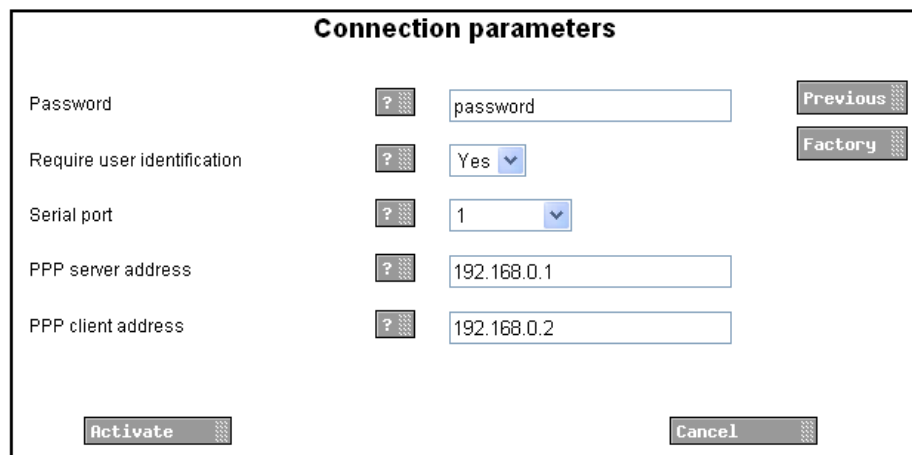

Figure 10. Settings in the Remote Management Server.
- 3 On the "Remote connection" row, click "Edit" to enter the "Connection parameters" window. With direct line connection, the following fields have to be set up, see figure 10 and table below.
- 3 On the "Remote connection" row, click "Edit" to enter the "Connection parameters window. With modem connection, the following fields have to be set up, see table below and figure 10 on page 12.
- 3 On the "Remote connection" row, click "Edit" to enter the "Connection parameters window. With IP connection, only the password to establish a remote connection has to be set up, see figure 10 on page 12.